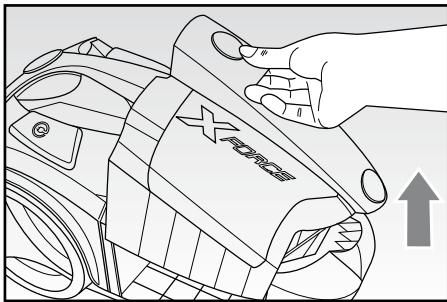

Fig. 6
- Press the release button (B) and at the same time, remove the dust container (D) using the relevant handle (Fig. 6).